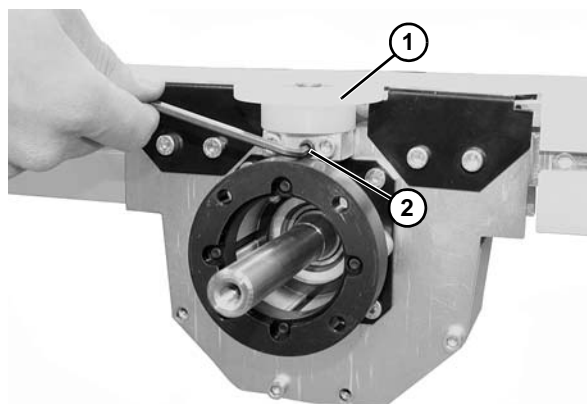

Figure 71
9. Install belt hold down wheel (**Figure 71, item 1**) and tighten set screw (**Figure 71, item 2**).